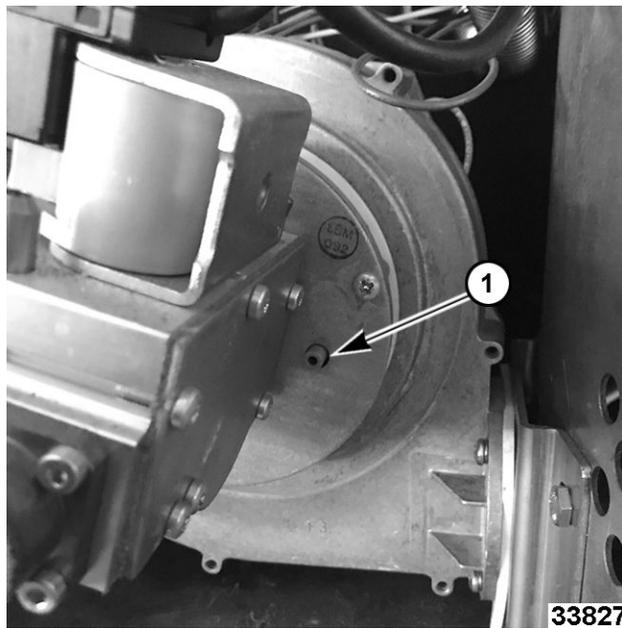

Fig. 2
NOTE: Fig. 2 item 1 shows port for pressure readings.